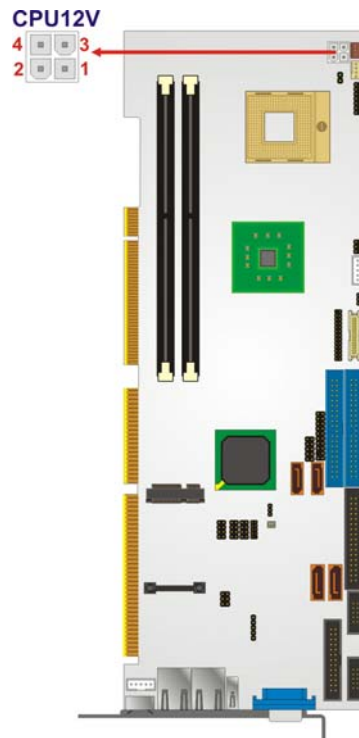

Figure 4-1: ATX-12V Connector Location
- CN Location:** See **Figure 4-1**